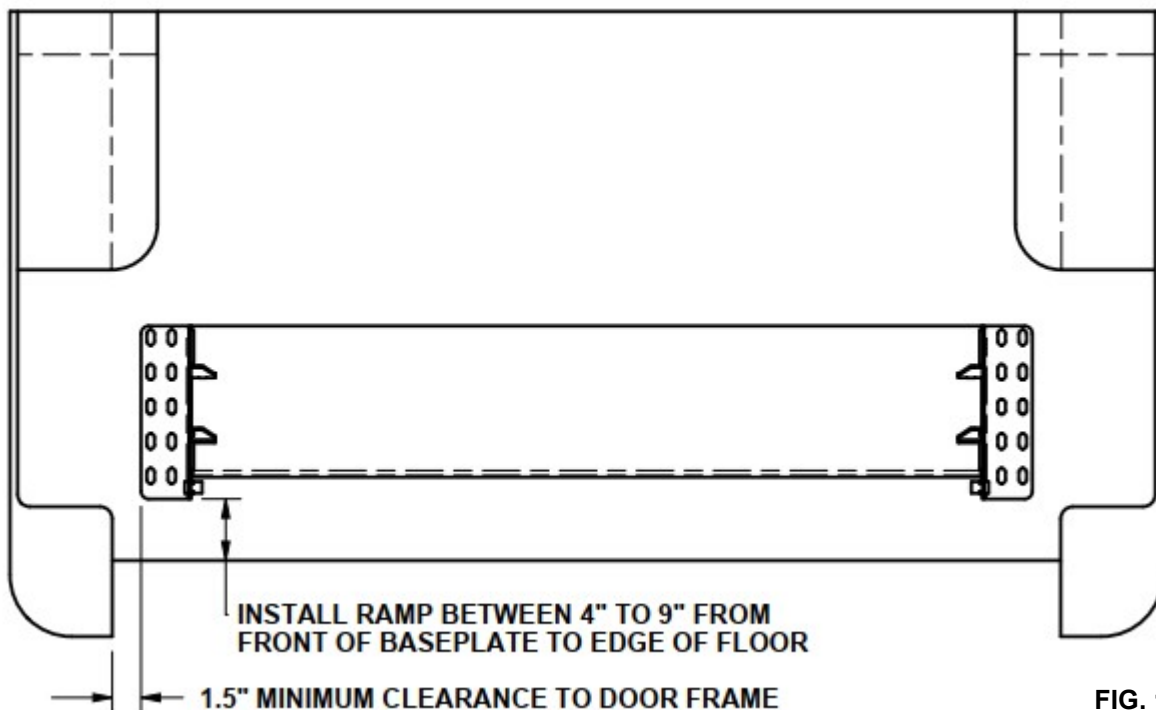

FIG. 1
4. Confirm clearances between the ramp and the van components. The ramp should be placed as close to the rear door as possible while insuring proper door closure and clearance. (See Fig. 1)